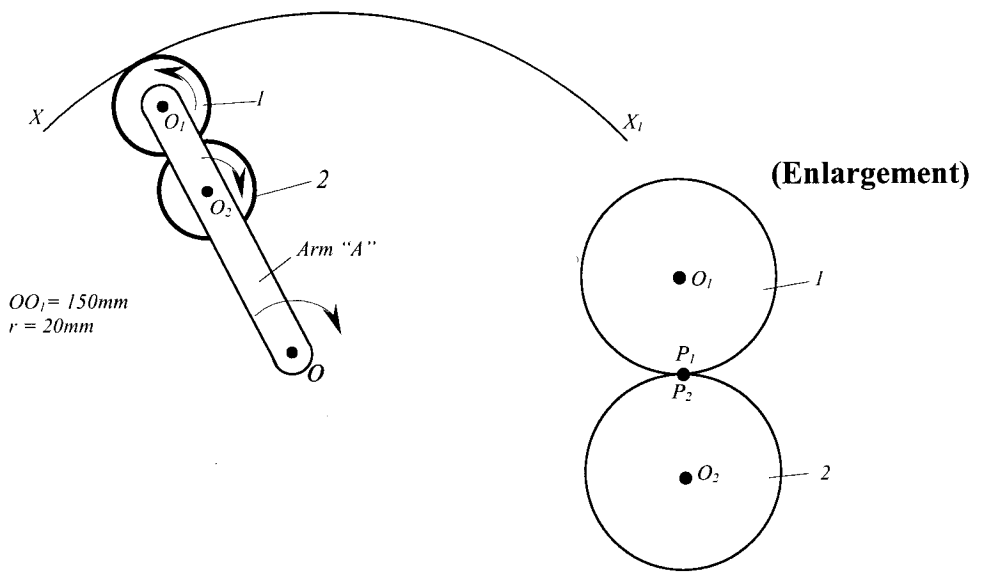

Fig.Q4
Q4. Fig. Q4 shows an arm labeled "A" rotating about fixed center point O . Attached to it are two(2) rubber wheels of the same radius r , rotating freely without slipping with respect to each other about their respective centers O_1 and O_2 . The wheel with center O_1 moves along curved plane $X-X_1$ without slipping. On the circumference of the two respective wheels lie points P_1 and P_2 respectively, as shown in the enlargement. You are asked to
- ii) Name the two (2) loci generated by the same points.